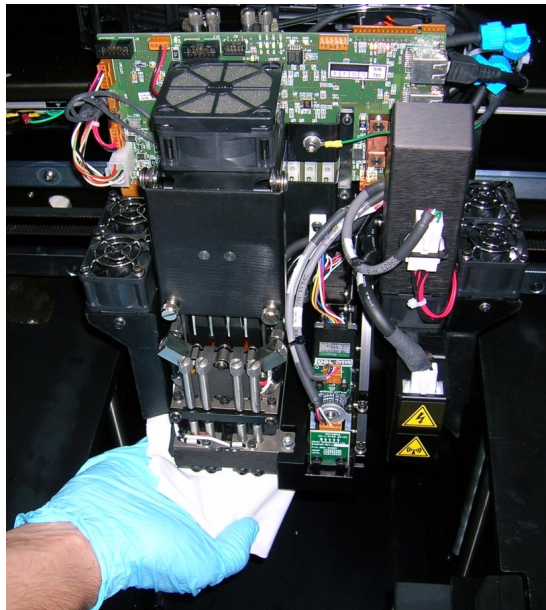

Figure 7-21:Cleaning the heads
9. Clean the orifice plates, with a back-and-forth motion (see figure 7-21). Use the mirror to make sure that you have removed all of the debris.